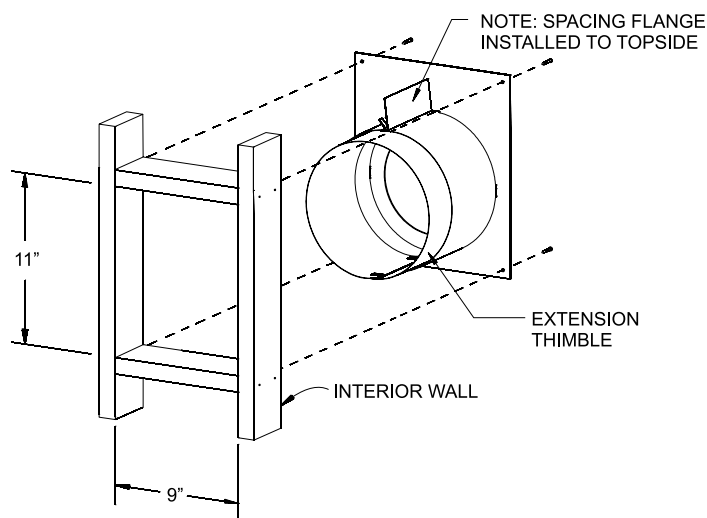

Figure 51
2. Cut hole in wall for wall thimble/firestop assembly (**Figure 51**) into your combustible wall. Note: On brick or block exterior wall a 7" (178 mm) diameter hole needs to be cut.
Measure the total wall thickness to determine whether or not the extension thimble is to be used. If the combustible wall depth is over 5 3/8" (137 mm), then the extension thimble should be used (**Figure 51**).
3. Install the wall thimble assembly through the framed opening so the firestop plate is on the interior wall (**Figure 51**). Telescope section should extend all the way through the exterior wall. Attach with four 10 x 1" screws.